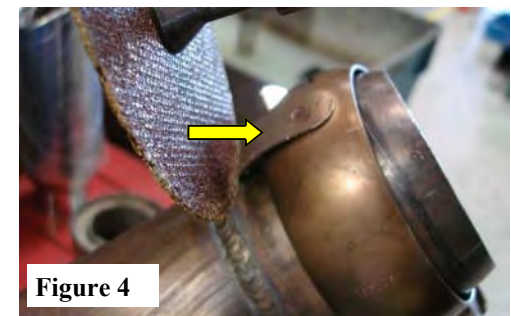

Figure 4
**NOTE:** This X-Pipe is designed to replace the factory H-Pipe which may vary width dimension from center to center. You may need to loosen the (4)15mm flange nuts in front of each cat-pipe to adjust. (See Fig.4)